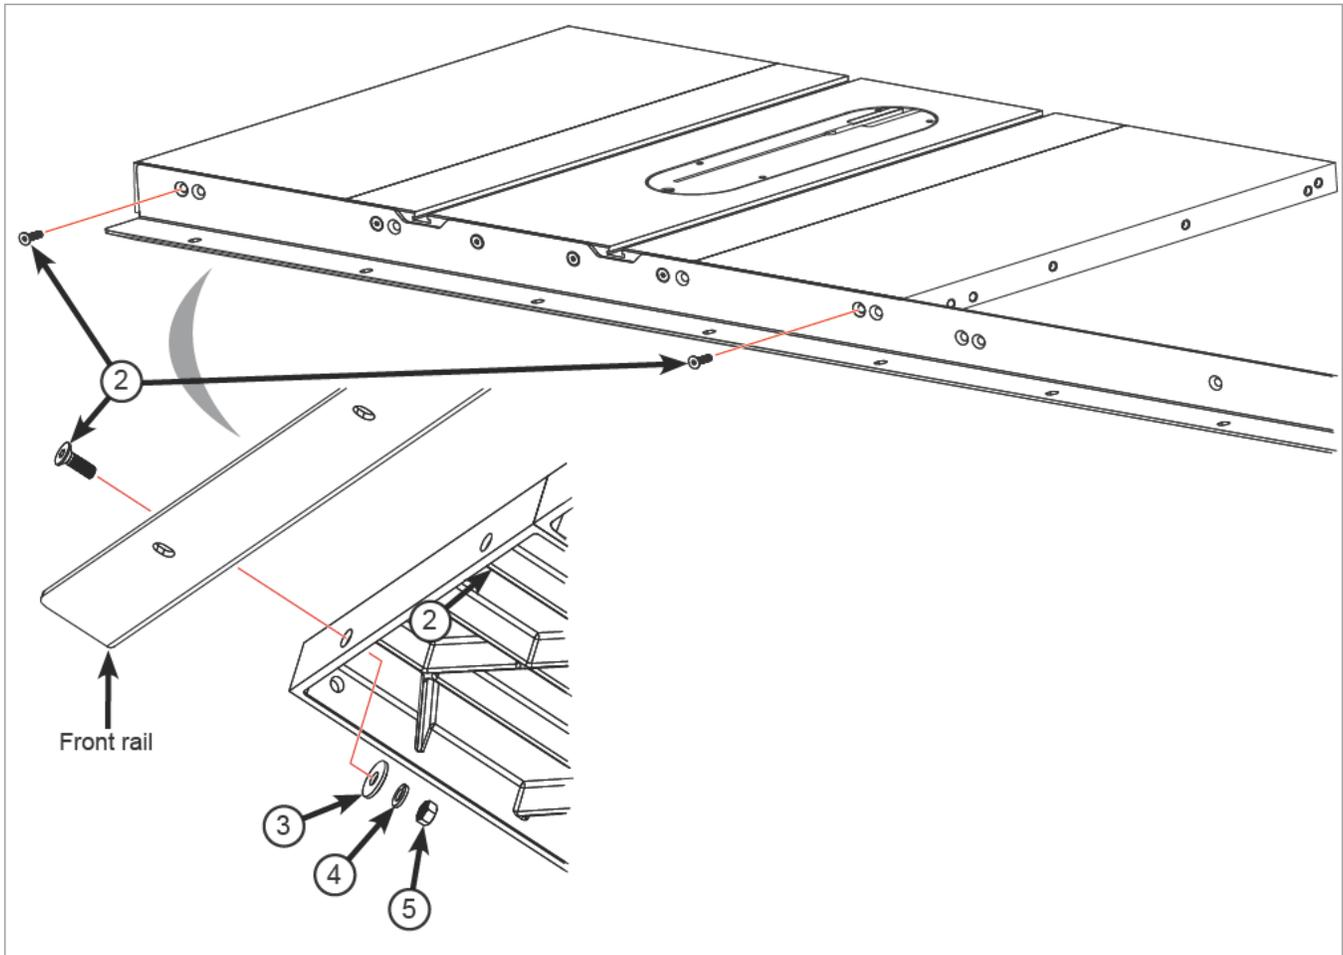

Fig. 5
3. Take two M8 x 25 countersunk socket head bolts (2) and insert one bolt through the corresponding hole in the end of each extension wing. Place an M8 washer (3), an M8 lock washer (4), and an M8 hex nut (5) on the threaded end of each of the bolts (See Fig. 5). Hand tighten the nuts; do not fully tighten them.